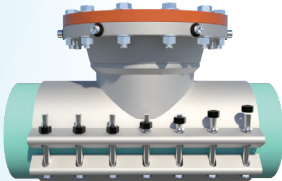
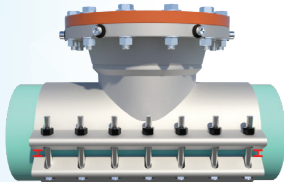

Figure 3
Figure 4
- 7) Install the bottom half of the line stop fitting over the tapered ends of the mat gasket ensuring they are flat and smooth against the pipe surface. Visually inspect gasket to ensure tapered ends are not folded or rolled under themselves. Install stainless steel bolts, washers, and nuts (see Figure 3). Finger tighten, ensuring gaps between top half and bottom half of the line stop fitting are the same front-to-back and side-to-side — within 1/8" (see Figure 4).